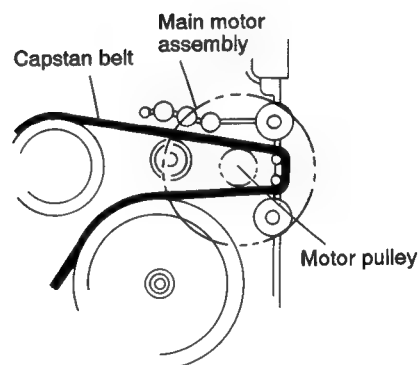

Fig.5-22a
2. While raising the main motor, remove the capstan belt from the motor pulley (See Fig. 5-22a).